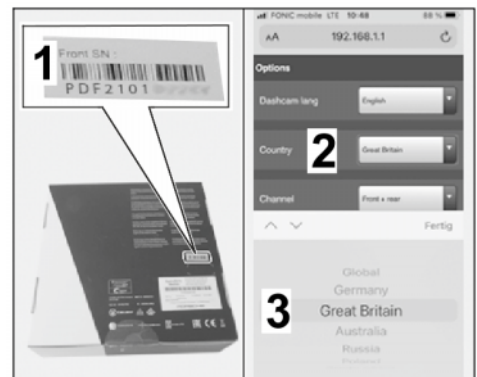

Figure 20
5.3.2 Select the country (⇒ *Figure 20*).